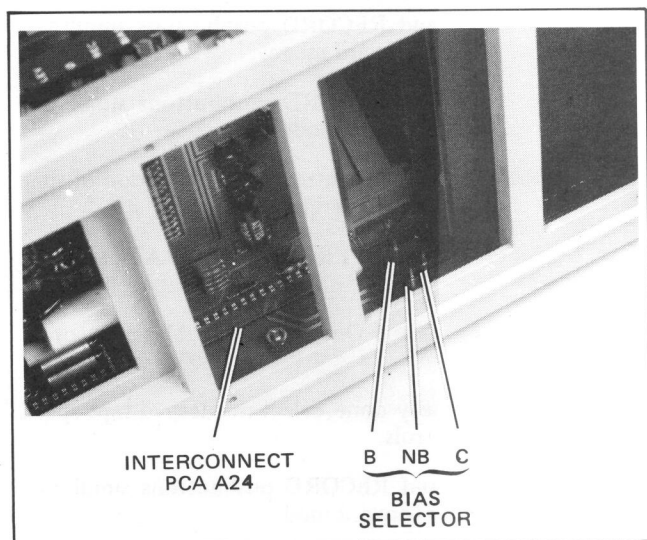

Figure 3-6. Interconnect PCA Bias Jumper Identification
j. Check the bias selector jumper on Interconnect PCA A24 (see Figure 3-6). If bias is not being used, the jumper is connected between pins C and NB. If bias being used, the jumper is connected between pins C and B (refer to NOTE following step h.).